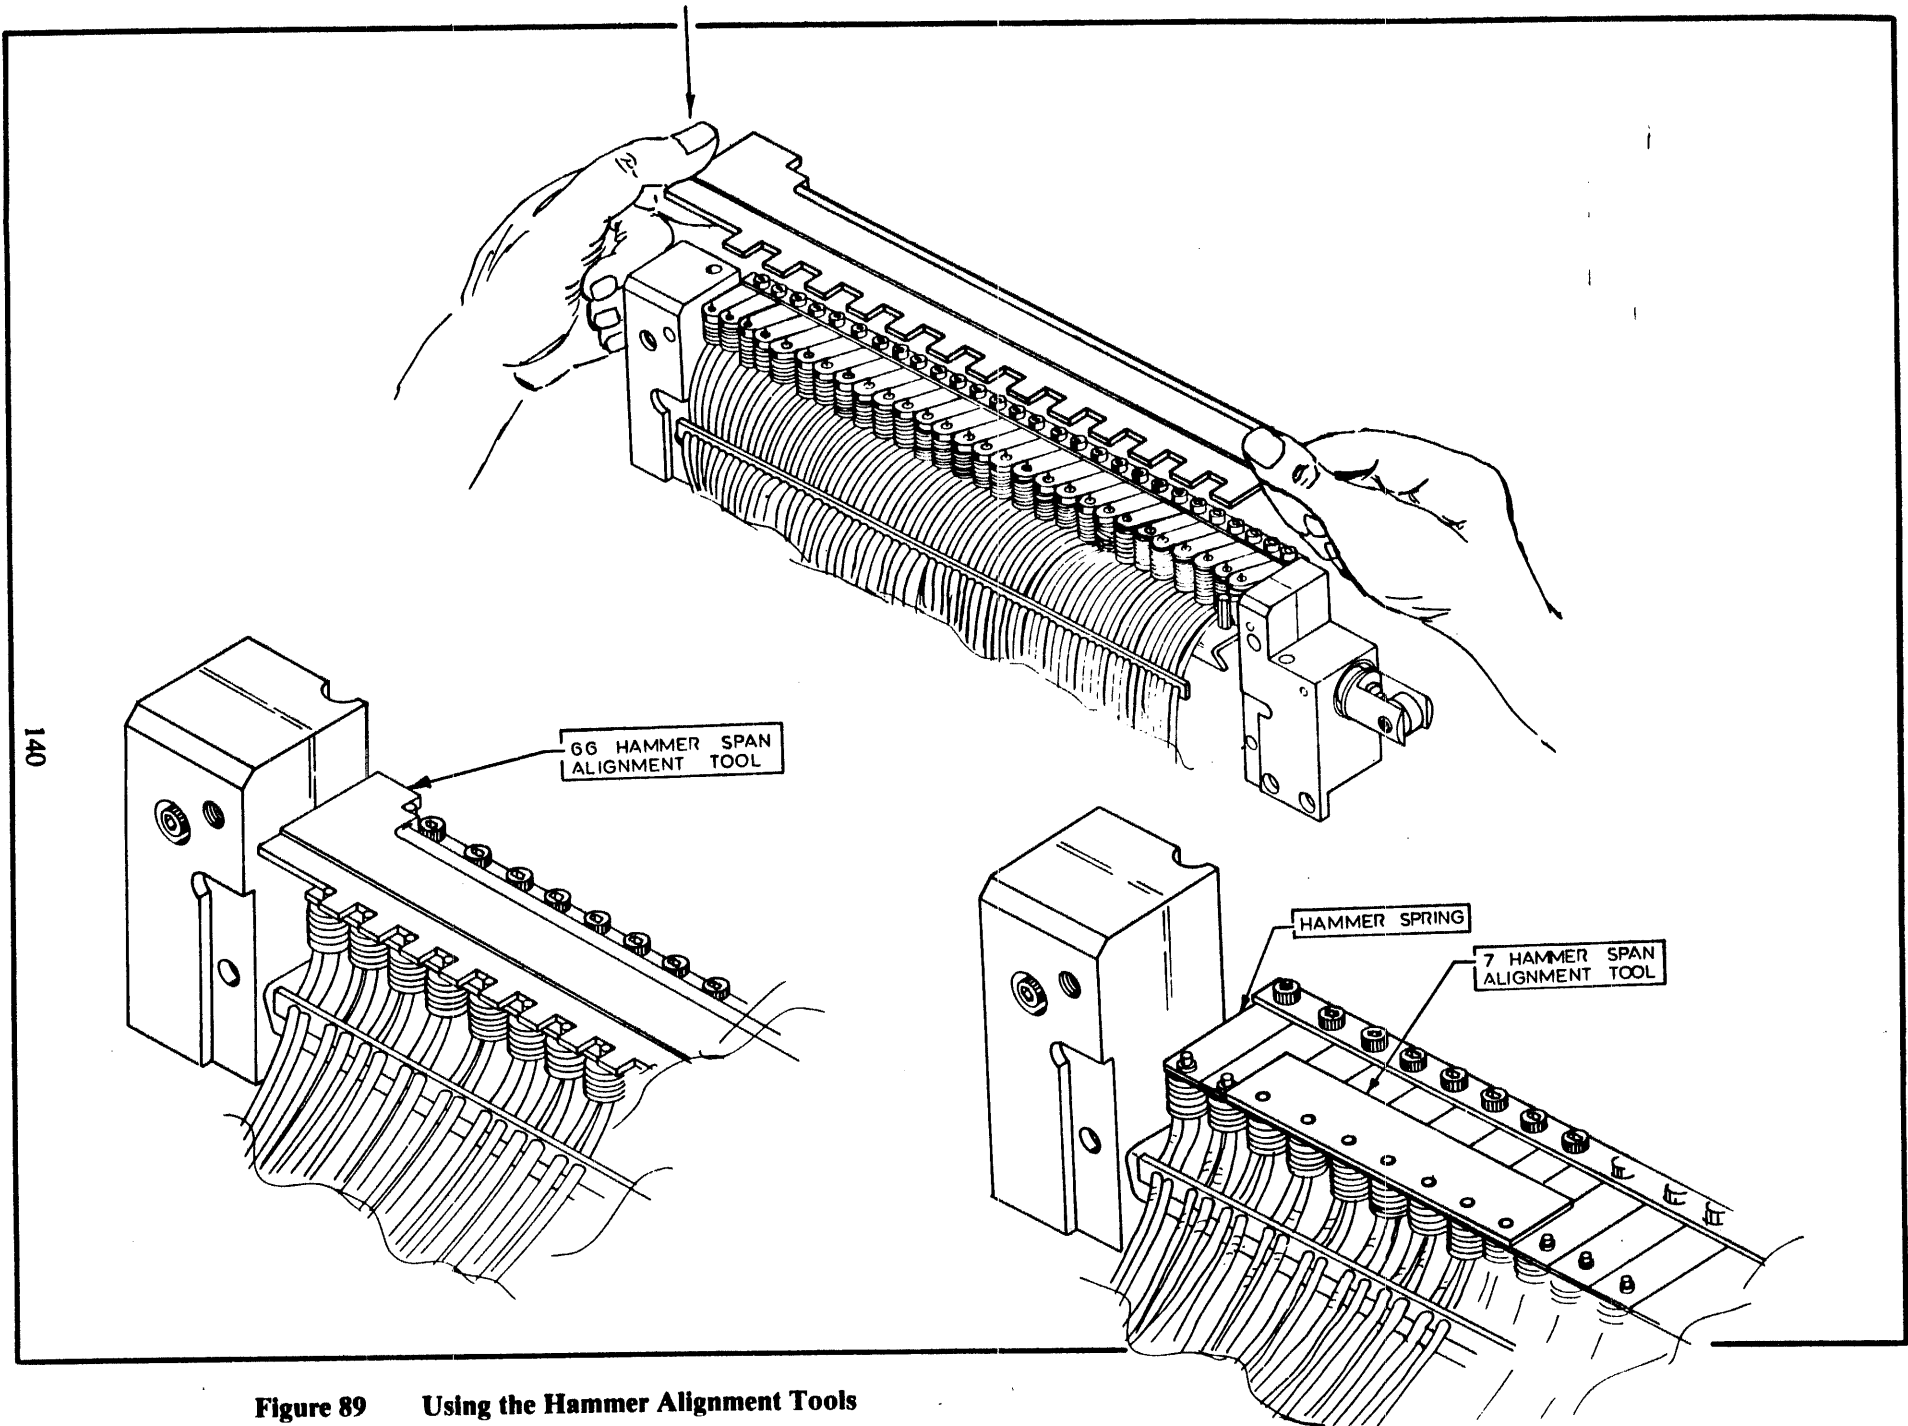

Figure 89 Using the Hammer Alignment Tools
- e. Fit holes in the hammer alignment tool (**Figure 89**) over hammer tips on either side of the hammer spring being replaced. Position the tip of the hammer spring so that the tip fits into its respective hole in the tool.